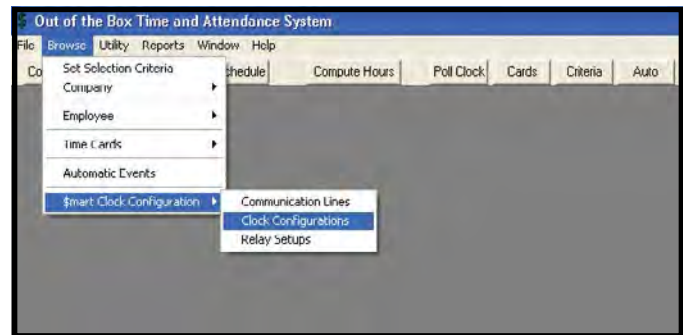

Figure 115. Out-of-the-Box™, Clock Configurations
- VI. Click "Browse" > "Smart Clock Configuration" > "Clock Configurations" (see Figure 115).